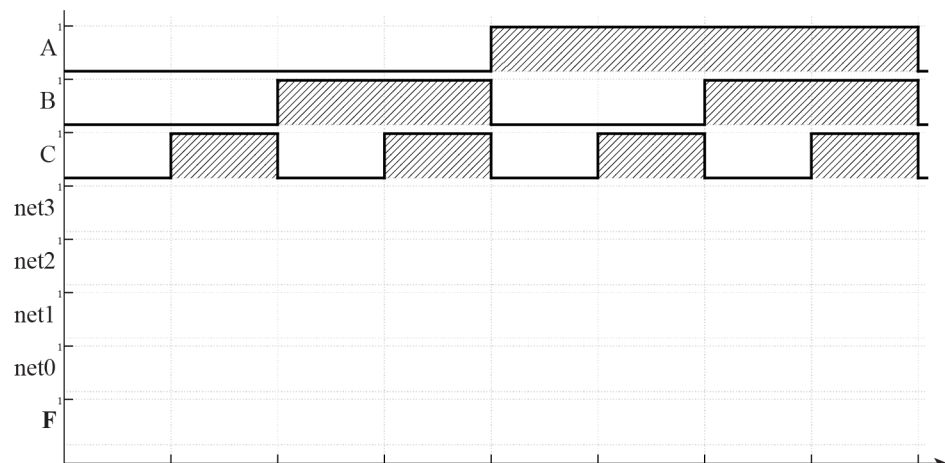

Fig. 4.2. Waveform corresponding to the circuit in **Fig. 4.1**.
3. Draw the output waveform for F , given input values for A , B , and C in **Fig. 4.2**.
- A completed waveform from **Fig. 4.2**.